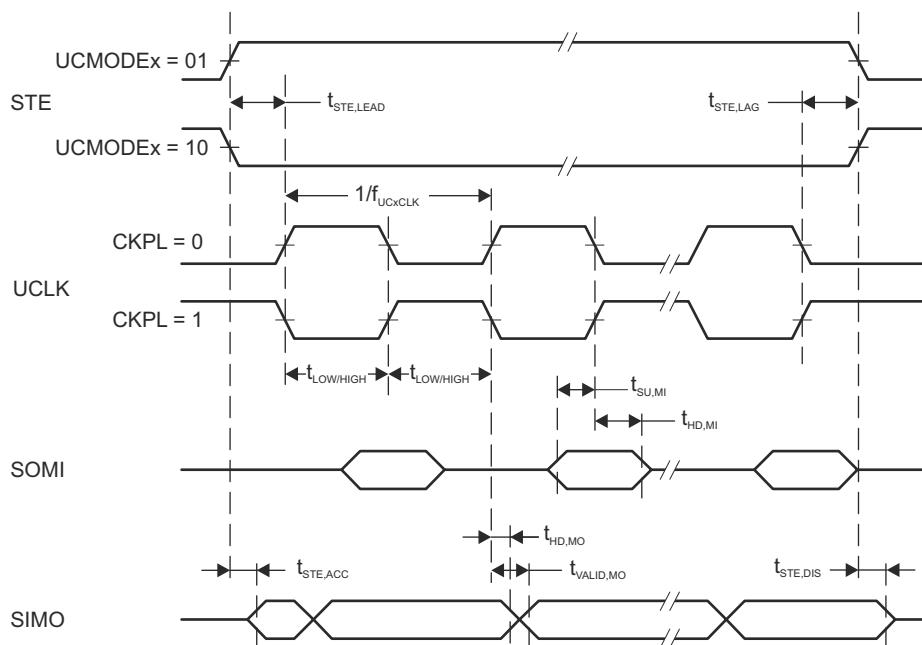
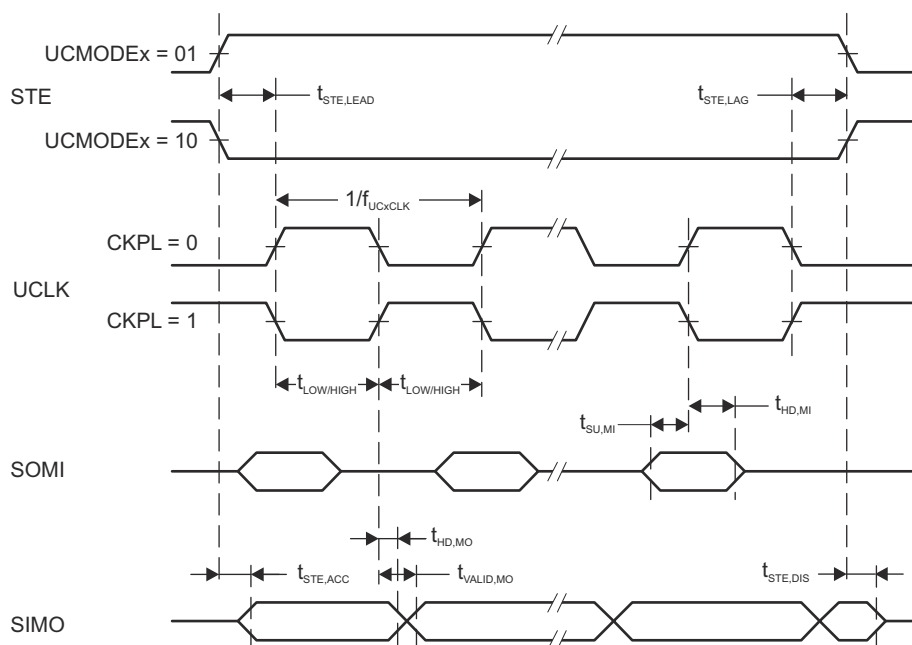

图 8-13. SPI Master Mode, CKPH = 0
图 8-14. SPI Master Mode, CKPH = 1
(2) Specifies the time to drive the next valid data to the SIMO output after the output changing UCLK clock edge. See the timing diagrams in 图 8-13 and 图 8-14.
(3) Specifies how long data on the SIMO output is valid after the output changing UCLK clock edge. Negative values indicate that the data on the SIMO output can become invalid before the output changing clock edge observed on UCLK. See the timing diagrams in 图 8-13 and 图 8-14.